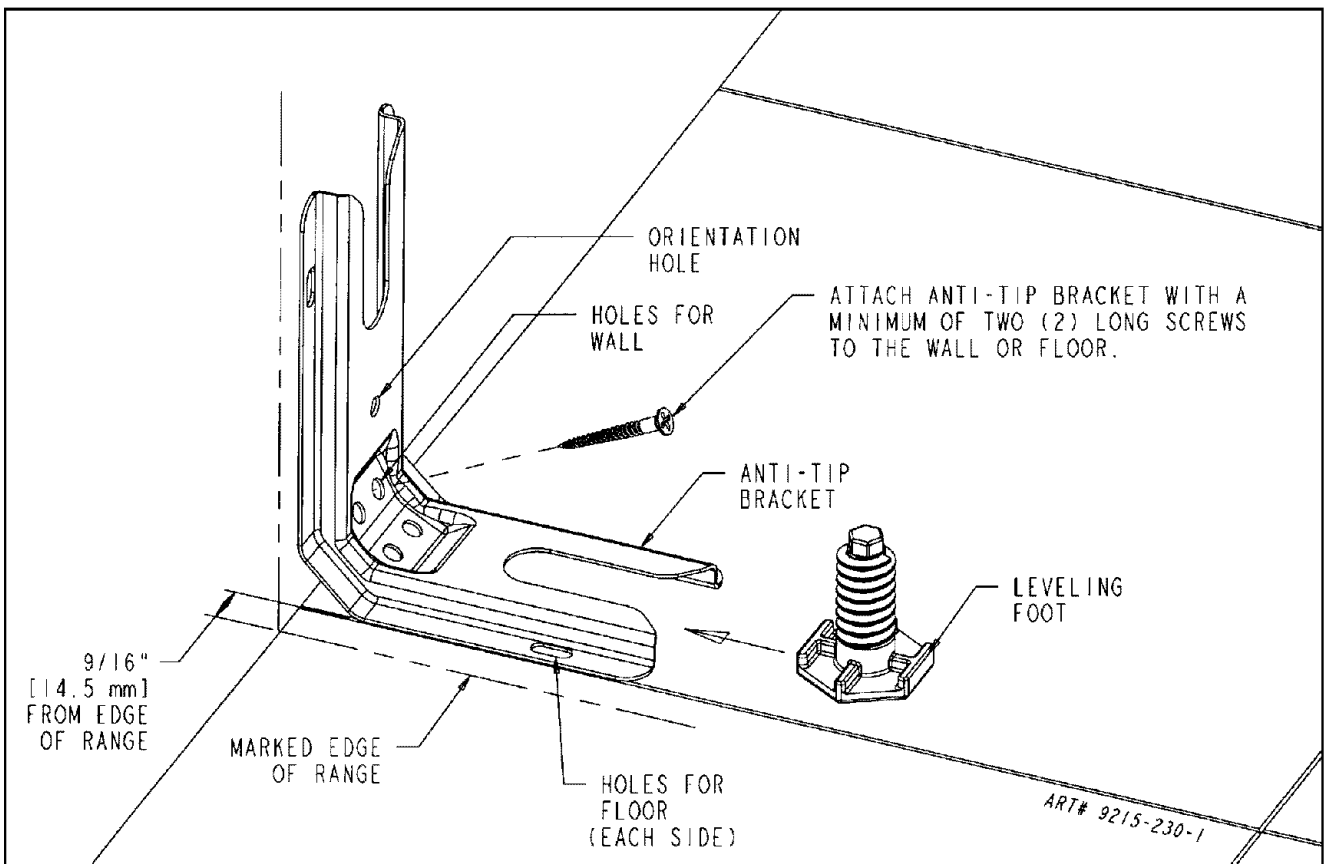
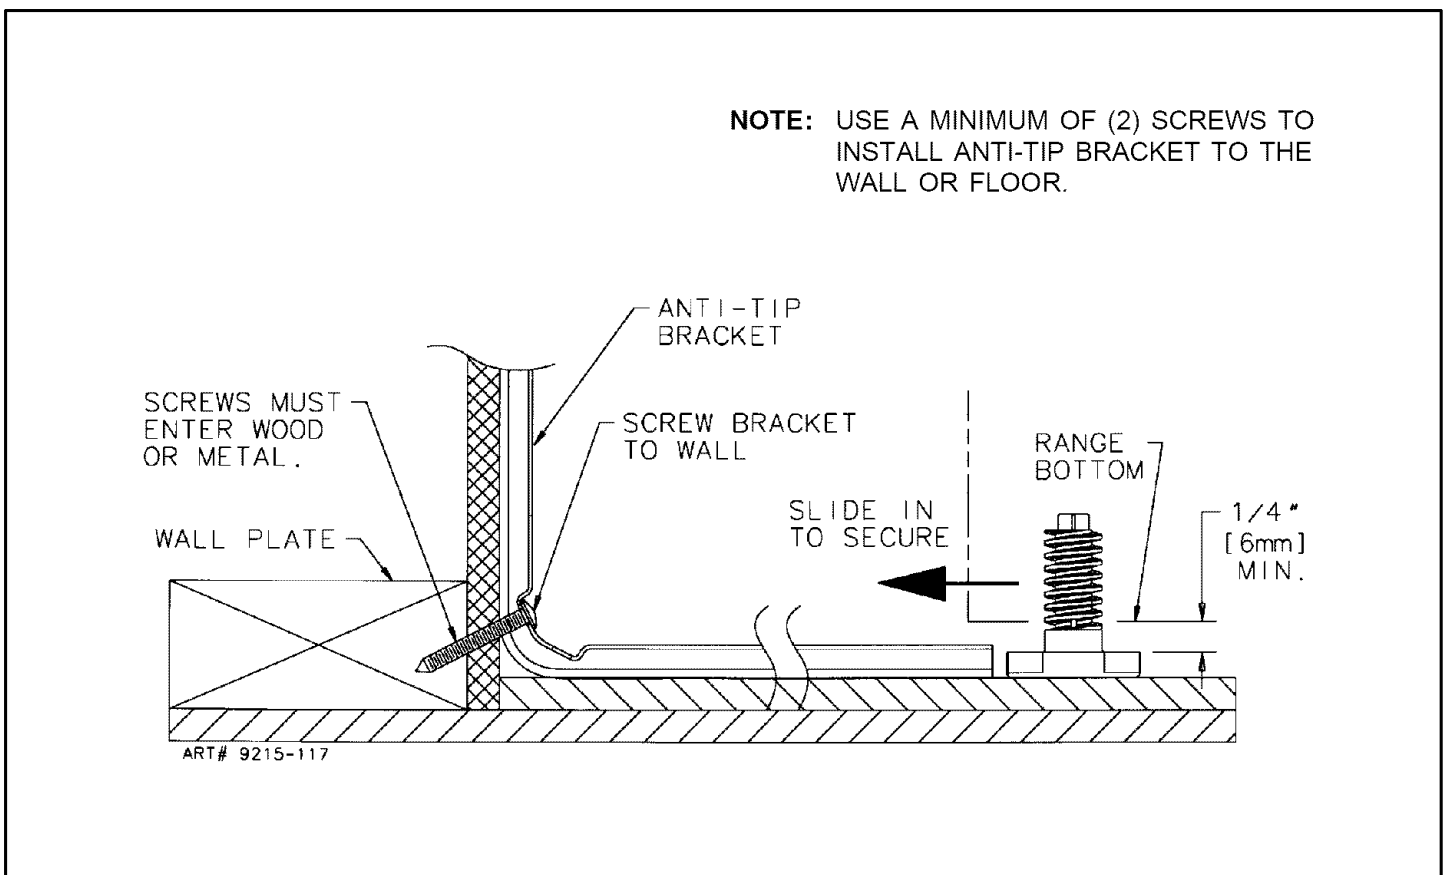

FIGURE 3
FIGURE 4
STEP 1 - Locating The Bracket (See Figure 3)
- Place the BRACKET $9/16"$ (14.5 mm) from the marked "EDGE" toward center of opening and against the back wall, as shown in figure 3, with orientation hole against wall.
- Use the bracket as a template and mark the required holes, as shown in figure 3 for the type of construction you will be using.
- Floor:** Locate the center of the two holes identified in figure 3 as "HOLES FOR FLOOR". Drill a $1/8"$ (3 mm) pilot hole in the center of each hole (a nail or awl may be used if a drill is not available). Secure the ANTI-TIP bracket to the floor with the two screws provided. Proceed to Step 3.
- Wall:** Locate the center of the two holes identified in figure 3 as "HOLES FOR WALL". Drill an angled $1/8"$ (3 mm) pilot hole in the center of each hole as shown in figure 4. (A nail or awl may be used if a drill is not available). Secure the ANTI-TIP bracket to the wall with the two screws provided as shown in figure 4. Proceed to STEP 3.
- Suitable screws for concrete construction can be obtained at the hardware store. Drill the required size hole for the hardware obtained into the concrete at the center of the holes identified in figure 3 as "HOLES FOR FLOOR". Secure the ANTI-TIP bracket to the floor. Proceed to STEP 3.
Note: A minimum clearance of 1/4" (6mm) is required between the range and the leveling foot that will engage the anti-tip bracket, (see figure 4).